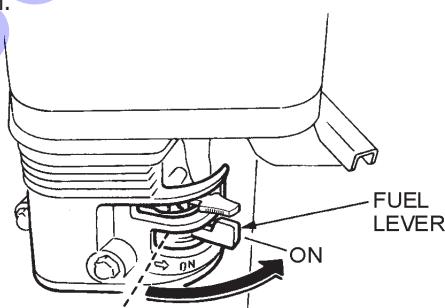

Figure 1. Engine Fuel Valve Lever (ON Position)
- Place the engine **fuel valve lever** (Figure 1) to the "ON" position.